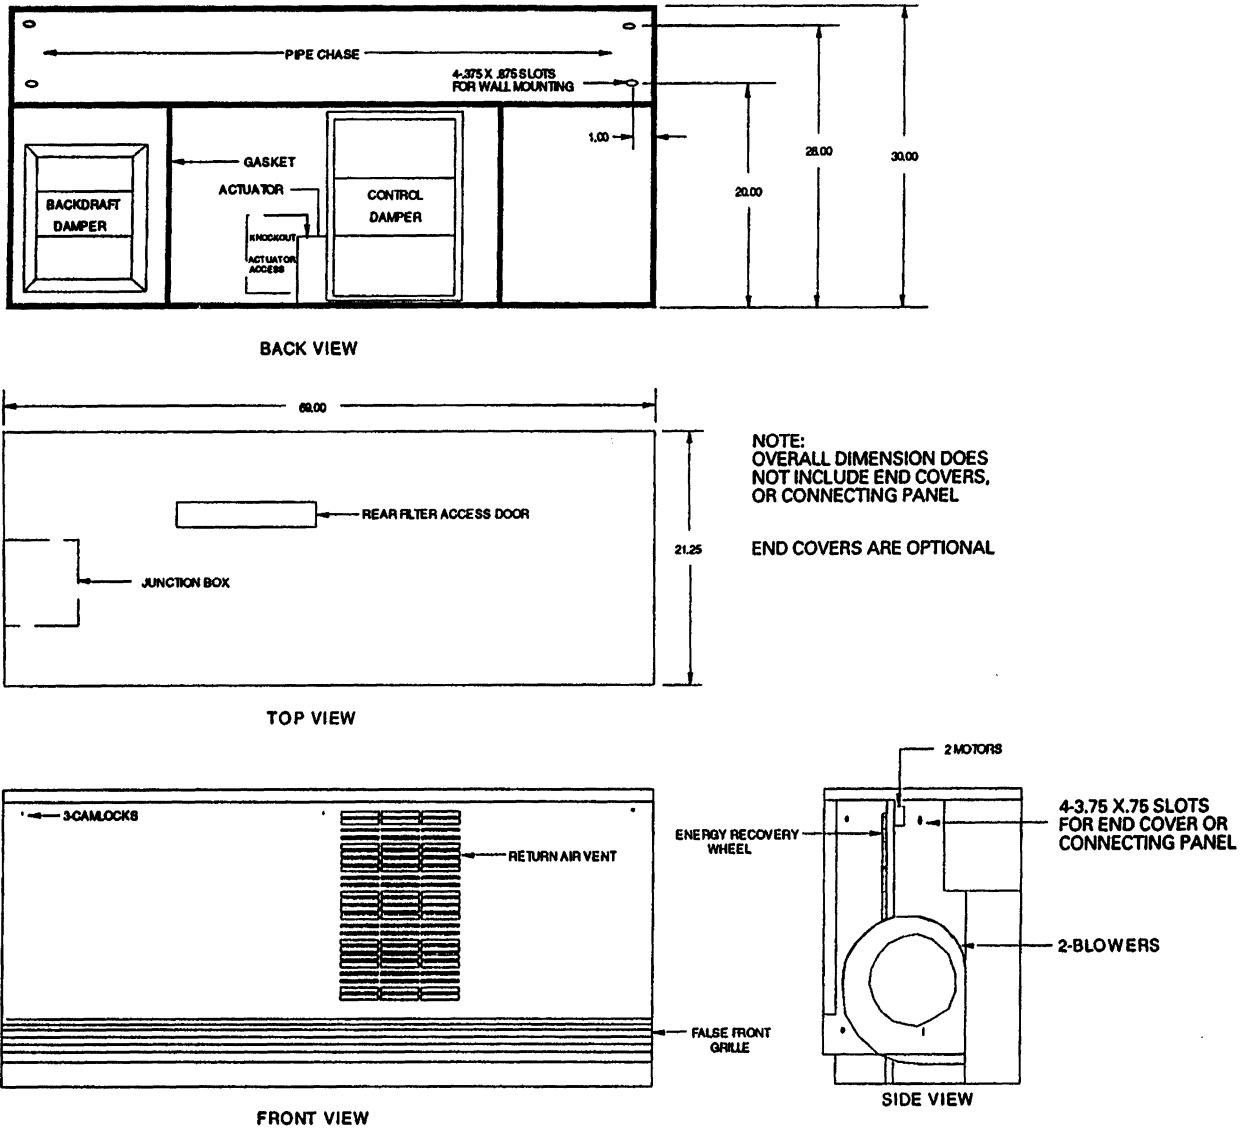

FIGURE 2 - UNIT DIMENSIONS
5. Remove all applicable electrical connection knockouts. See Figure 2, page 7 for their location.
Figure 2, page 7 illustrates the .375 x .875 slots in the back of the unit. Two mounting slots are provided at each end of the unit. All mounting fasteners are to be furnished by the installer.